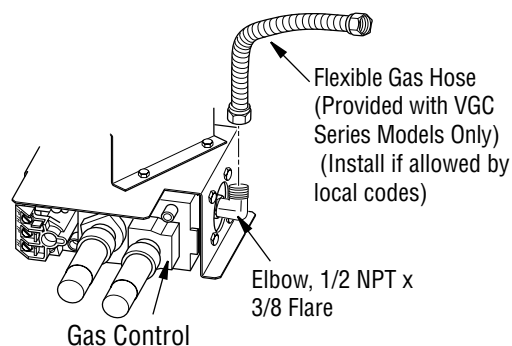

Figure 9 - Attaching Flexible Gas Hose to Appliance Gas Regulator
1. Apply pipe joint sealant lightly to male threads of the 1/2 NPT side of gas fitting elbow (provided) and connect to inlet side of gas control. Remove gas fitting from flexible gas hose (provided) before connecting to elbow (see Figure 9).
4. Disconnect gas line from appliance base as shown in **Figure 9, Page 8**.